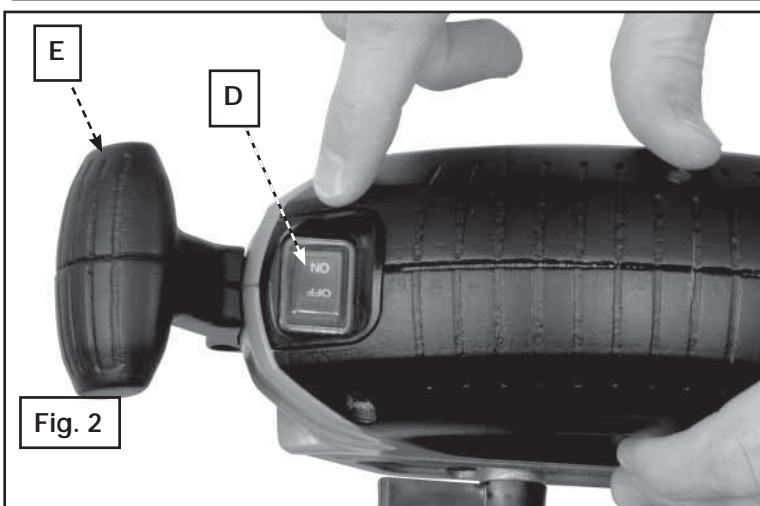

Fig. 2
WARNING: To reduce the risk of injury, be sure sander is turned off and disconnected from the power supply when changing the sanding belt. Before reconnecting the tool, make sure the switch (D) Fig. 2 is in the off position.
To turn unit on, depress the side of the dust-protected switch (D) Fig. 2 that reads "ON" and corresponds to the symbol "I." To turn the unit off, depress the side of the switch that reads "OFF" and corresponds to the symbol "O."
The front auxiliary handle is removable to allow the sander into tight spaces. The unit comes with the handle (E) Fig. 2 installed as shown. To remove the handle, loosen the screw (S) Fig. 4 in the center of the handle using a flat head screwdriver and then remove handle and screw.
2. Turn on switch (D) Fig. 2 to start the belt.
This can be a one-handed tool. Proper hand position would be to have one hand on the rubber portion of the body, as shown in Fig. 6. If needed, the other hand can grip the auxiliary handle (E) Fig. 2.